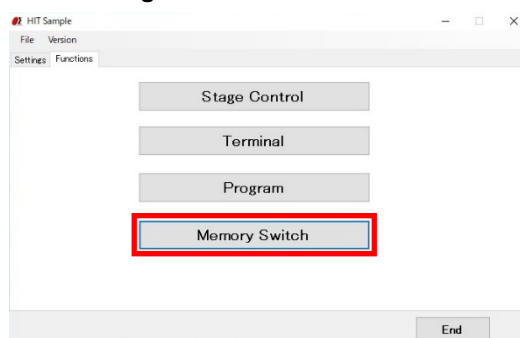

Figure 2-2:Please choose a Memory Switch
② Activate SGSample.
③ Please choose a Memory Switch. (Figure 2-2.)